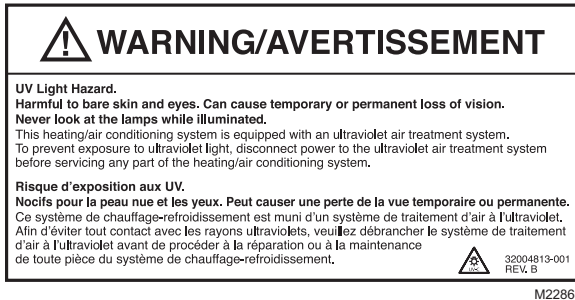

Fig. 10. HVAC maintenance UV safety label.
17. Adhere the HVAC maintenance safety label to the HVAC equipment (selected in step 16) such as the furnace access door, air cleaner or humidifier. See Fig. 10.